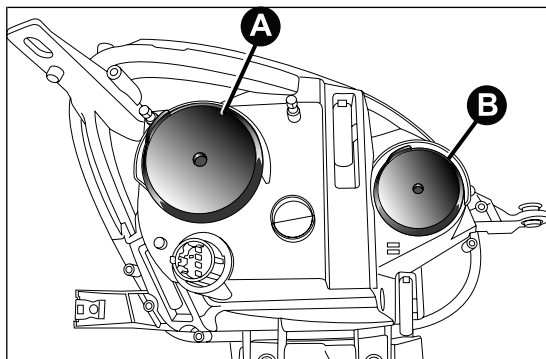

fig. 122
These contain the bulbs for the dipped beams, main beams and direction indicators. The bulbs are arranged as follows fig. 122:
- ☐ remove cover A fig. 122;
- ☐ then refit the cover A fig. 122.
- ☐ remove cover B fig. 122;